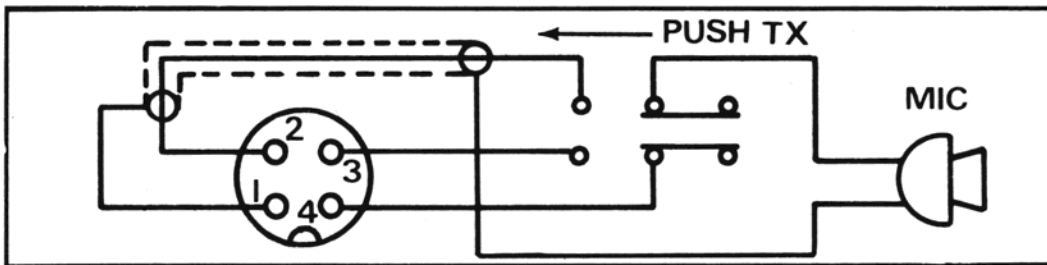

Fig. 3. Cobra 138XLR microphone schematic.
1. Cut leads so that they extend  $7/16''$  beyond the plastic insulating jacket of the microphone cable. (See Fig. 3 and 4.)